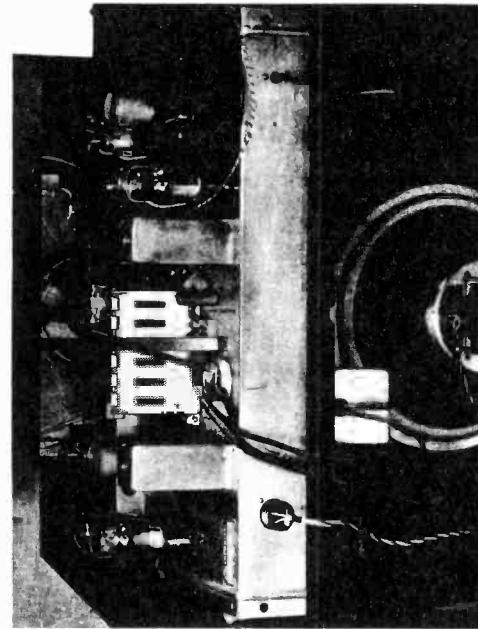

FIG. 9
2. Referring to Fig. 9, note that the following two tubes have been removed: